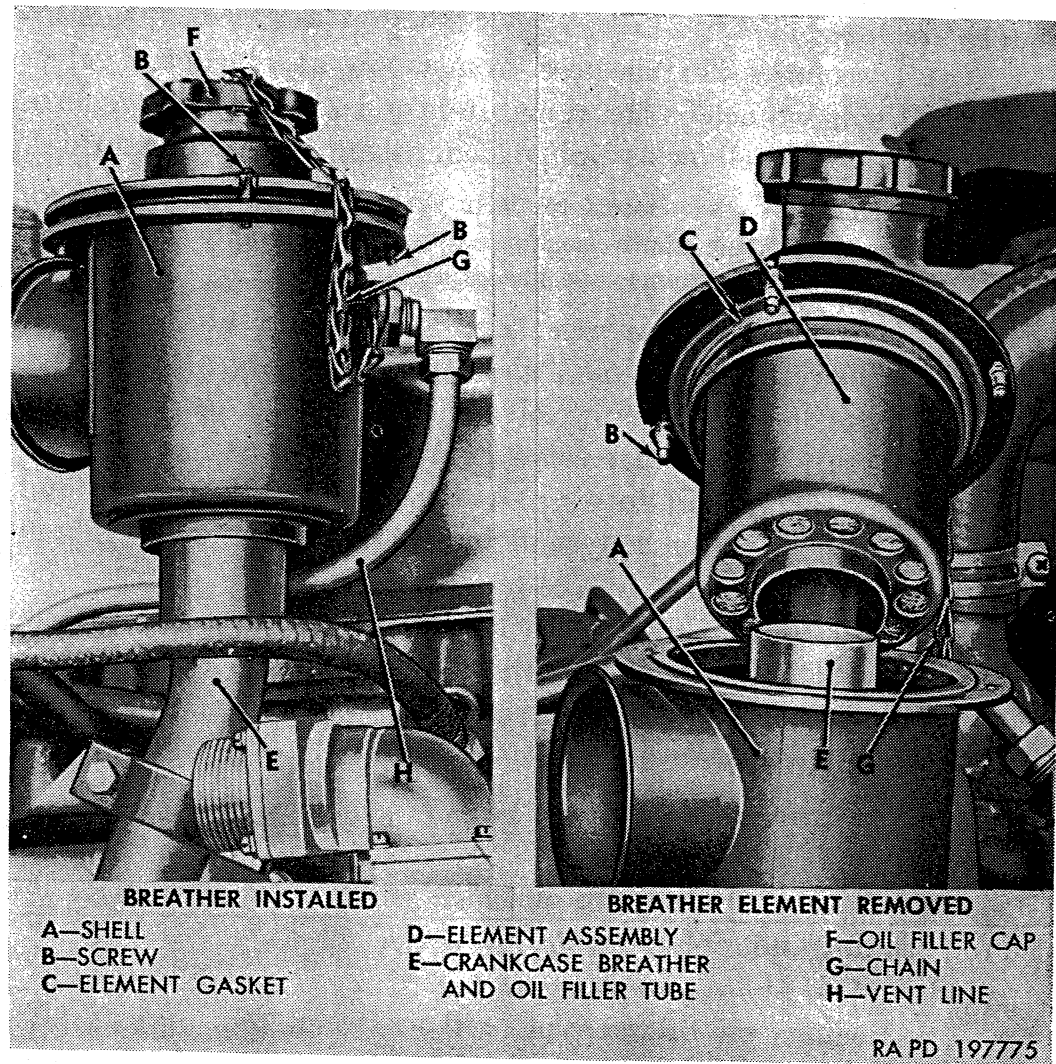

Figure 107. Crankcase breather element.
- (2) *Installation.* Screw valve into fitting at intake manifold. Install elbow in valve if elbow has been removed. Connect flexible hose to elbow on valve.
*Note.* The key letters noted in parentheses are in figure 107, except where otherwise indicated.